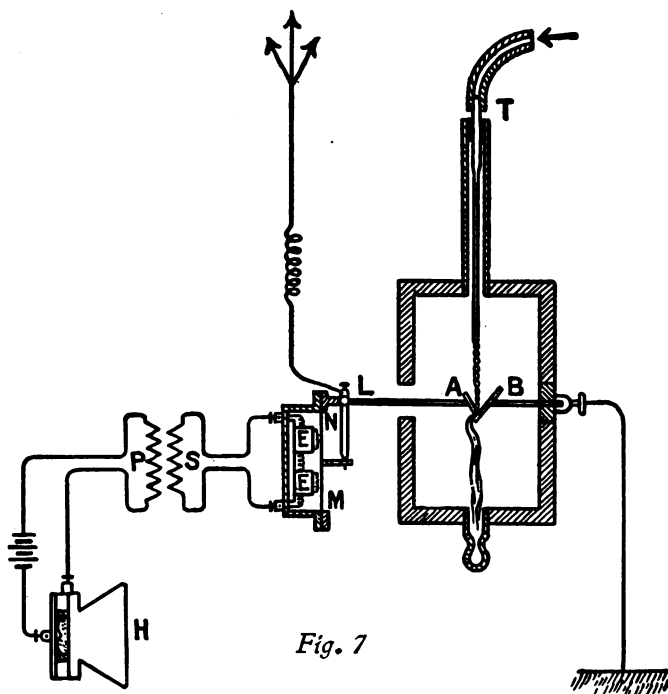

Fig. 7
This remarkable property of falling water was the basis of the Bell microphone, perfected by Chichester Bell, and which consists of two parts — the transmitter and the collector. The transmitter is used to transmit the sound-waves to the jet of water, and the method of its operation and the arrangement of its various parts may be clearly understood by examining the diagram (Fig. 7). Upon the movable electrode (A) the jet of water issuing from the tube (T) falls from a height which may be regulated and at a given pressure. When one speaks into the mouthpiece (H) of the microphone the vibrations of the center of the diaphragm are increased by the induction-coil (P S), and are transmitted to the movable electrode (A), which they set in vibration, giving little shocks to the jet of falling water. These shocks alter the cylindrical jet to a flat film, which varies in thickness and electrical resistance with the variations of sound. This variation is further intensified by the electrode (A) dipping more or less into the layer of liquid on the plate (B) as it vibrates.